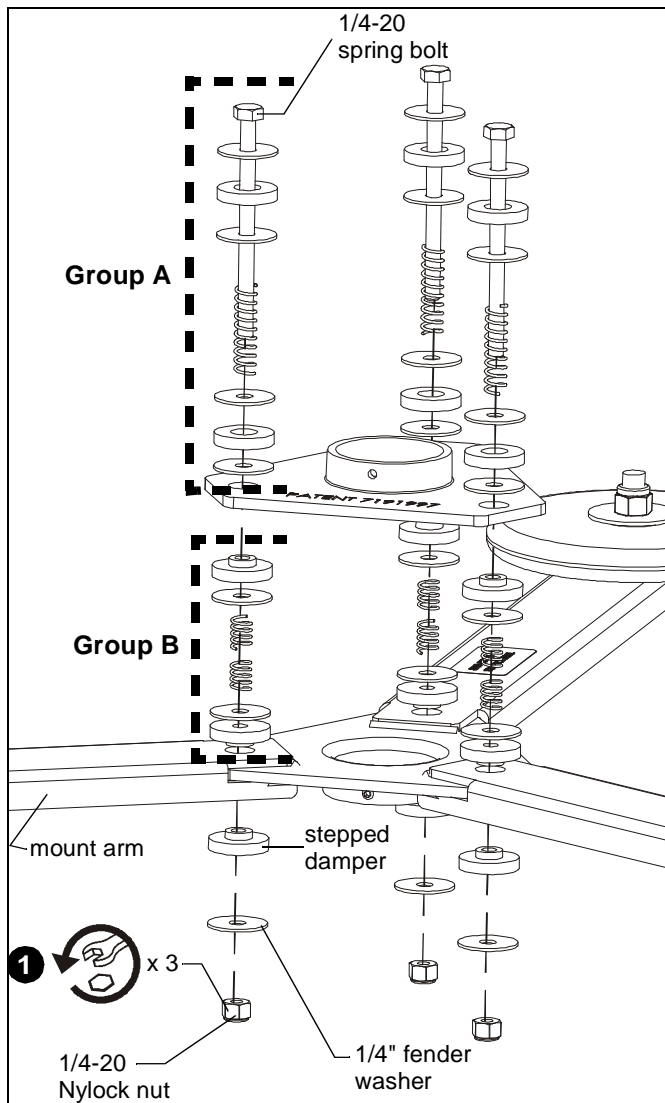

Figure 2
2. Remove Group A hardware (and **SAVE** 1/4-20 spring bolt) by sliding 1/4-20 spring bolt upward. (See Figure 2)
NOTE: Make certain Group B hardware stays in place when removing 1/4-20 spring bolt and associated hardware. (See Figure 2)